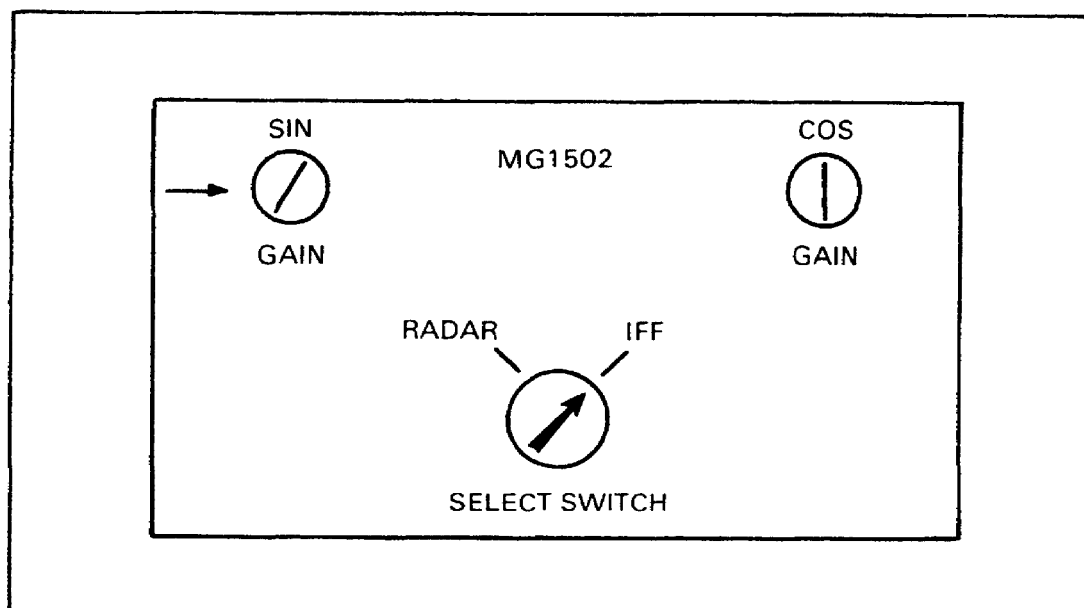

Figure 21. IFF sine gain control adjustment.
n. Have your assistant rotate the IFF antenna for a maximum voltage indication on the multimeter. Adjust IFF sine gain control on the IFF sine-cosine converter MG-1502 for ± 36 V DC. (See Figure 21.) Record reading _____.